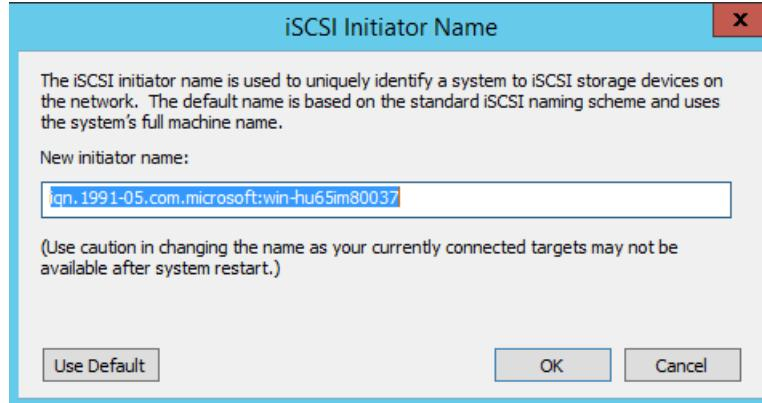

Figure 9-20. iSCSI Initiator Node Name Change
- c. In the iSCSI Initiator Name dialog box, type the new initiator IQN name, and then click **OK**. (Figure 9-20)